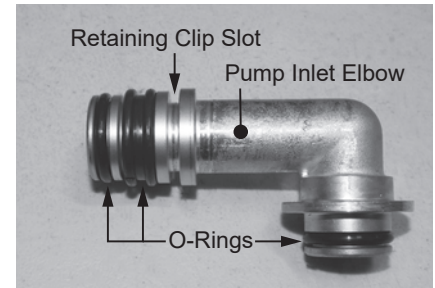

Figure 167 - Pump inlet elbow O-rings
• Locate new pump inlet elbow and three (3) O-rings provided in the kit. The pump inlet elbow uses one (1) 15 x 2.5 O-ring on the inlet side, one (1) 16 x 7 double seal O-ring on the inlet side, and one (1) 15 x 2.5 O-ring on the outlet side. Install O-rings to elbow. Install elbow to water pump and secure with retaining clip. Proceed to **Step 33** if not replacing water pump. See Figure 167.
The pump inlet elbow uses one (1) 15 x 2.5 O-ring on the inlet side, one (1) 16 x 7 double seal O-ring on the inlet side, and one (1) 15 x 2.5 O-ring on the outlet side. See Figure 167.